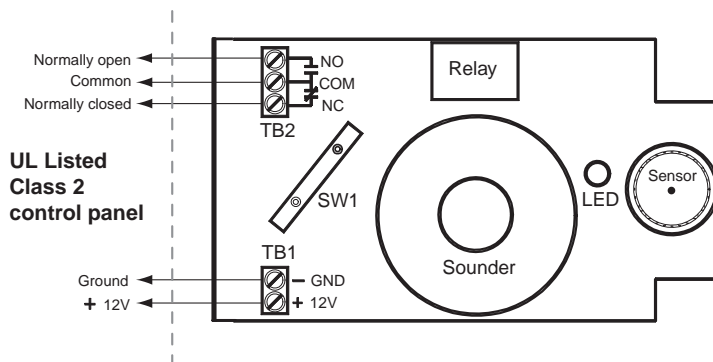

Figure 2
6. Strip 3/8 inch of insulation from each wire, and insert under the appropriate screw terminal. See Figure 2.